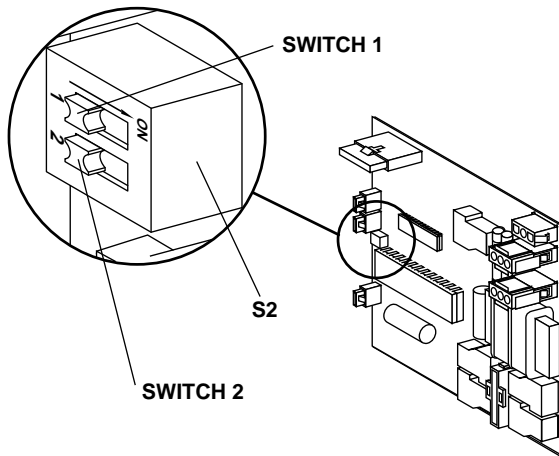

Figure 3. Switch Locations
Position 3 or button 3 also allows for two optional functions: **Pre-Position** or **Last Position**. These functions are determined by two switches located on the chair controller board under the pump housing cover (see *Figure 3 on Page 7*).
4. Locate the red two-position switch labeled S2 on the circuit board (see Figure 3).